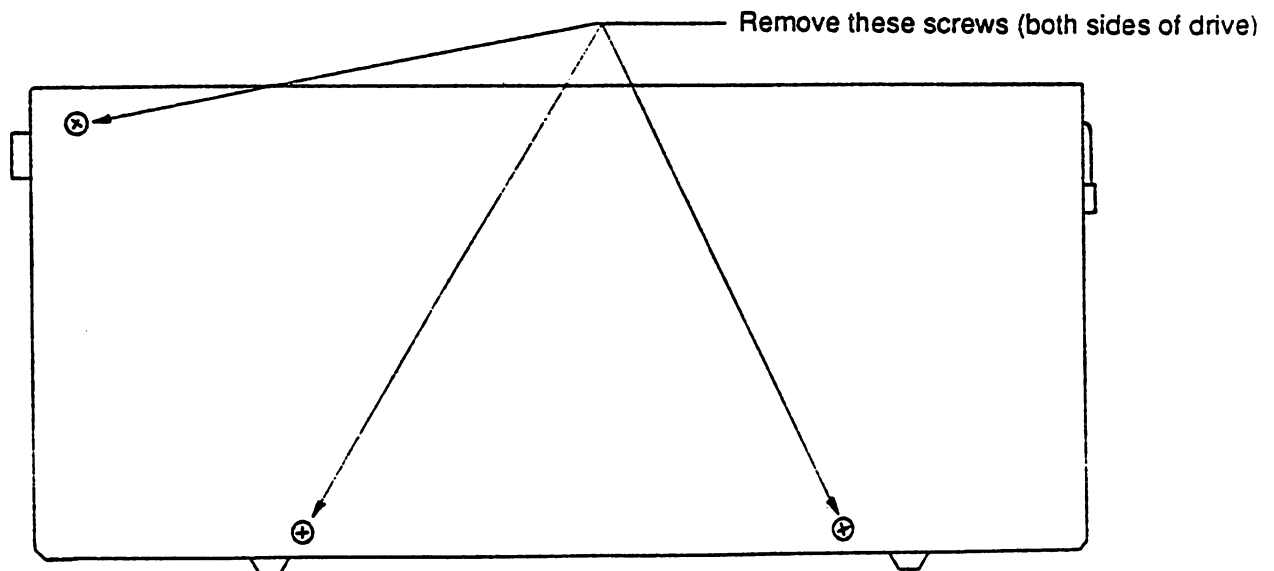

Figure 1 MSD CASE SCREW REMOVAL
5. Remove the six case screws (three on each side of the drive) indicated in Figure 1 below.